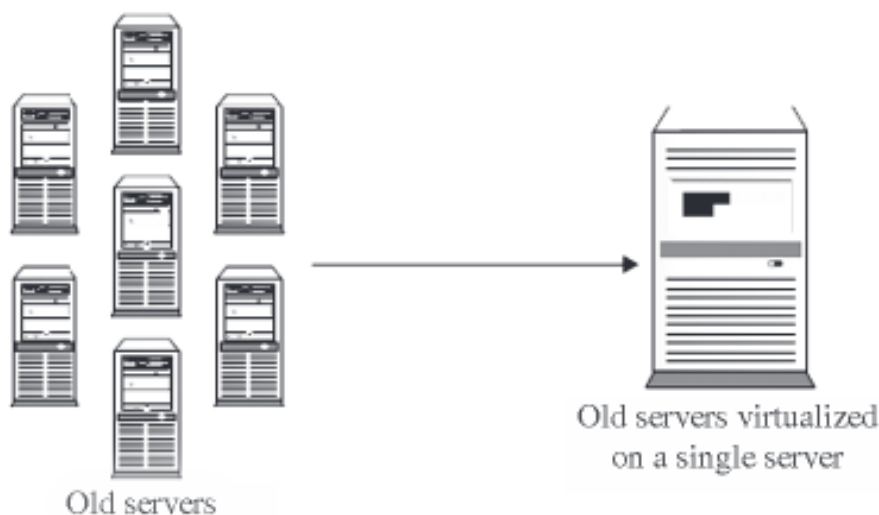

Fig. 1 Consolidating servers onto a fewer number of units conserves energy.
- In the past, it needed a lot of servers to satisfy mission-critical tasks, by consolidating several machines into one and through virtualization, this is often illustrated in Figure 1.